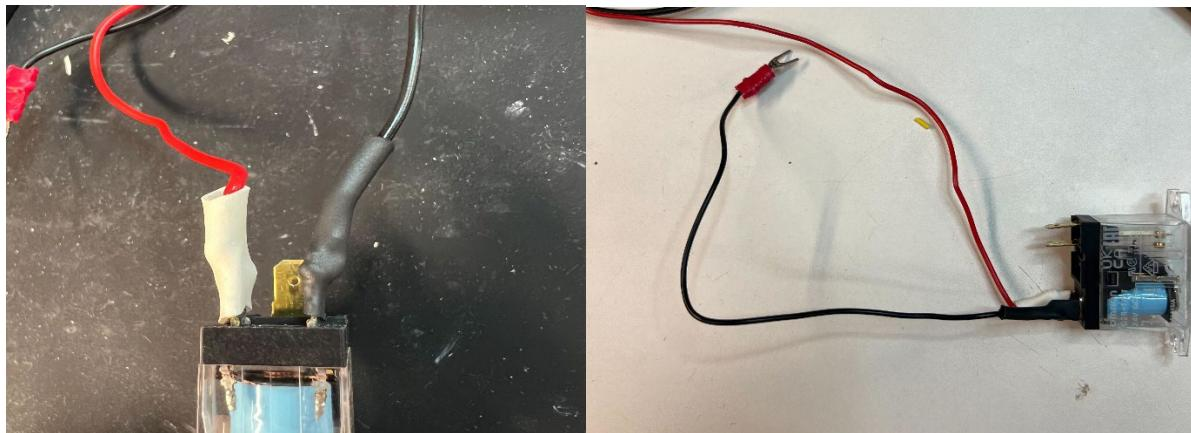

Figure 9: Soldered connections to the Relay. The pins are non-polar can can be switched
5. Prepare 2 wires: 1 red and 1 black (the red wire should be at least the length of the back of the chassis plus the side of the chassis; the black wire should be cut short). Solder the wires onto the 2 vertical tabs on the relay (labeled pins 1 & 5; the connections are non-polar; you can use either tab for either wire. You may want to unmount the relay to make the soldering easier). Crimp the other end of the black wire with a ring terminal and screw into the terminal block on the negative DC side. See Figure 9 for reference